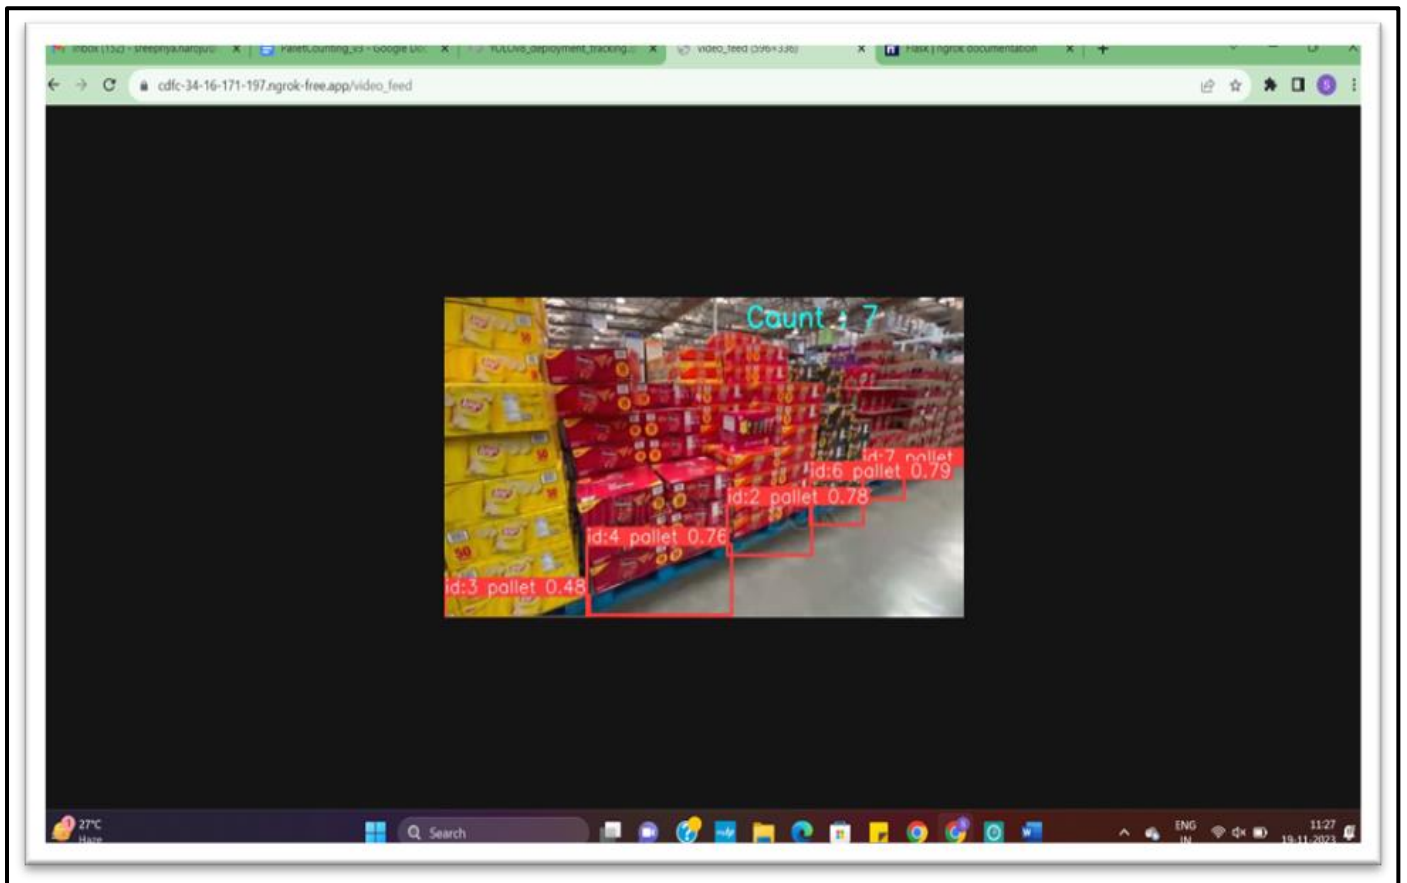

Fig 8 Detecting and Counting the Pallets
- The result is the image or video with bounding boxes drawn over them wherever pallets are detected. The count is given by the number of bounding boxes drawn. [Fig.8]